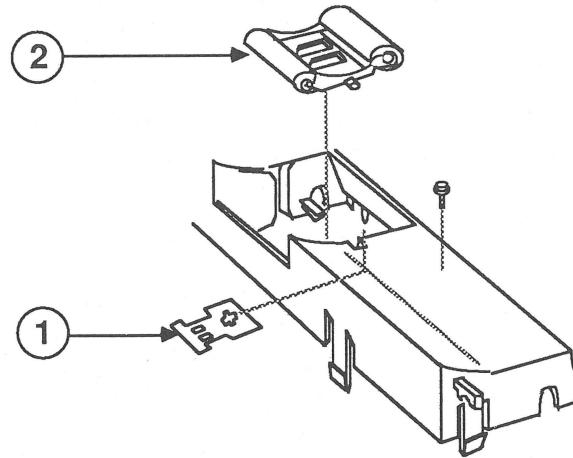

FIGURE 43
1. Position the two pinch-roller spring plates (Figure 43, #1) on the paper guide.
3. Place the pinch-rollers (Figure 43, #2) on the paper guide and replace the three screws.